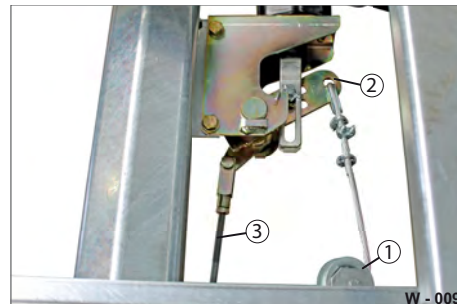

Fig. 9 Transfer mechanism
- ▶ Lubricate the guide pulley (Fig. 9/1) and friction and bearing points with grease.